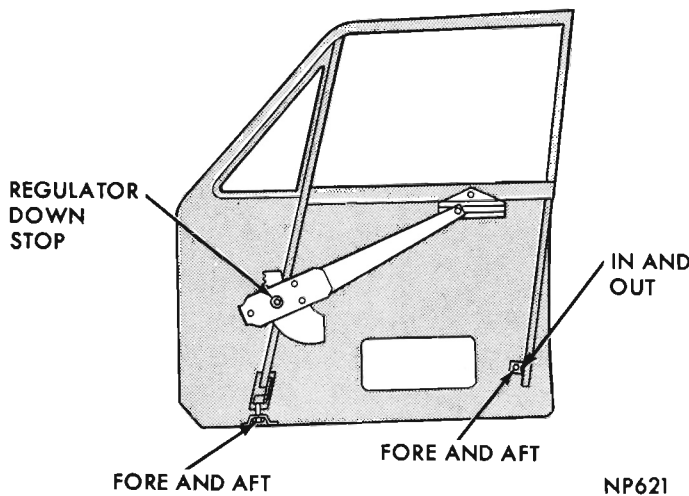

Fig. 4 - Front Door Glass Adjustment (Sedan)
Fore-or-aft adjustment (Fig. 4) of the upper end is accomplished by moving vent wing up or down. The assembly moves forward and downward to relieve a binding condition of the door glass and rearward and upward to remove looseness.
Lower glass and move division channel rearward to remove excessive looseness of glass without creating a binding condition. Tighten adjusting screws at lower end of channel (Fig. 4).
(1) Loosen front run channel lower mounting screw (Fig. 4).
(2) Move run channel forward and slide glass out of channel.
(3) Remove regulator arm from lift bracket channel.
(4) Remove glass from door.
(5) Push plug out of lift bracket rivet.
(6) Pinch expandable ends of rivet together and push rivet out of glass.